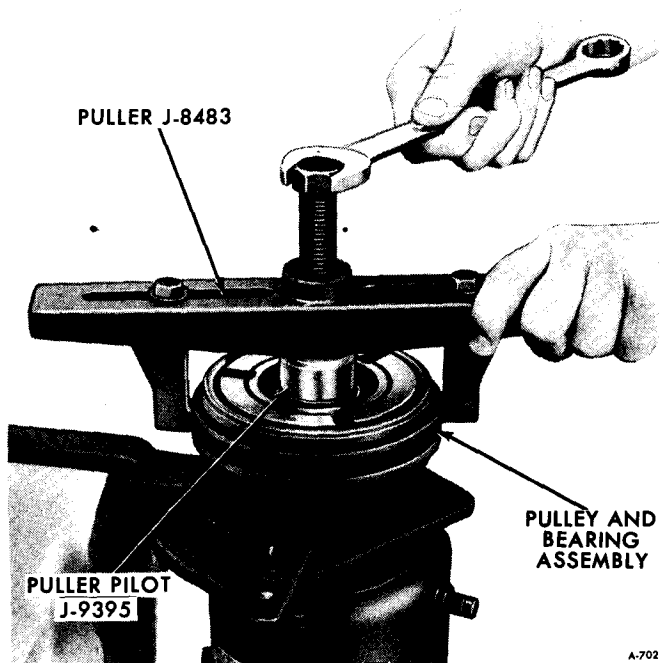

Figure 78—Removing Pulley and Bearing Assembly
5. Remove Pulley and Bearing Assembly using Pulley Puller J-8433 (figure 78).
9. Position the new metal sleeve retainer so that its flange face will be against the front end of the sleeve. Pulley puller pilot J-9395 (figure 78) may be used to install the retainer. Press and tap with a mallet, setting the retainer and sleeve into place (retainer should be recessed approximately 1/32" from the face of the compressor neck) (figure 89).